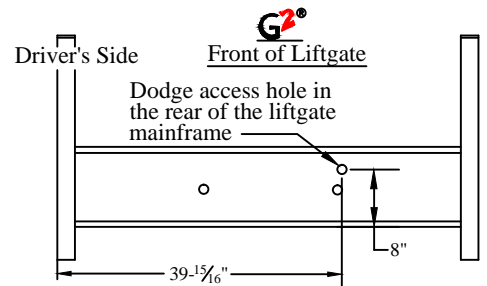

Figure 16: G² spare tire access.
2. **Remove** the black plastic plug from the mainframe in the locations shown (Figure 16).